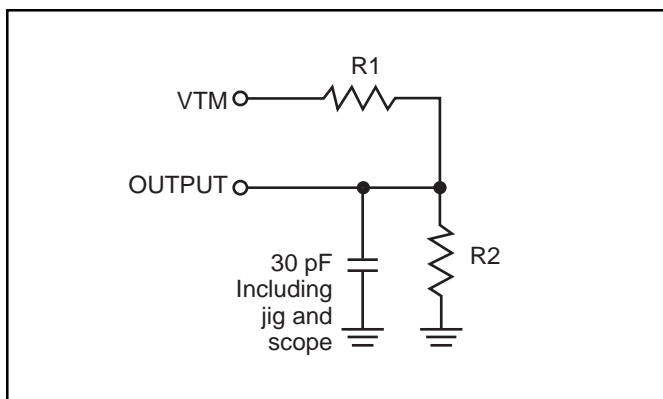

Figure 1
1. Test conditions assume signal transition times of 5 ns or less, timing reference levels of 0.9V/1.5V, input pulse levels of 0.4 to V_{DD}-0.2V/V_{DD}-0.3V and output loading specified in Figure 1.
1. Test conditions assume signal transition times of 5 ns or less, timing reference levels of 0.9V/1.5V, input pulse levels of 0.4V to $V_{DD}-0.2V/V_{DD}-0.3V$ and output loading specified in Figure 1.